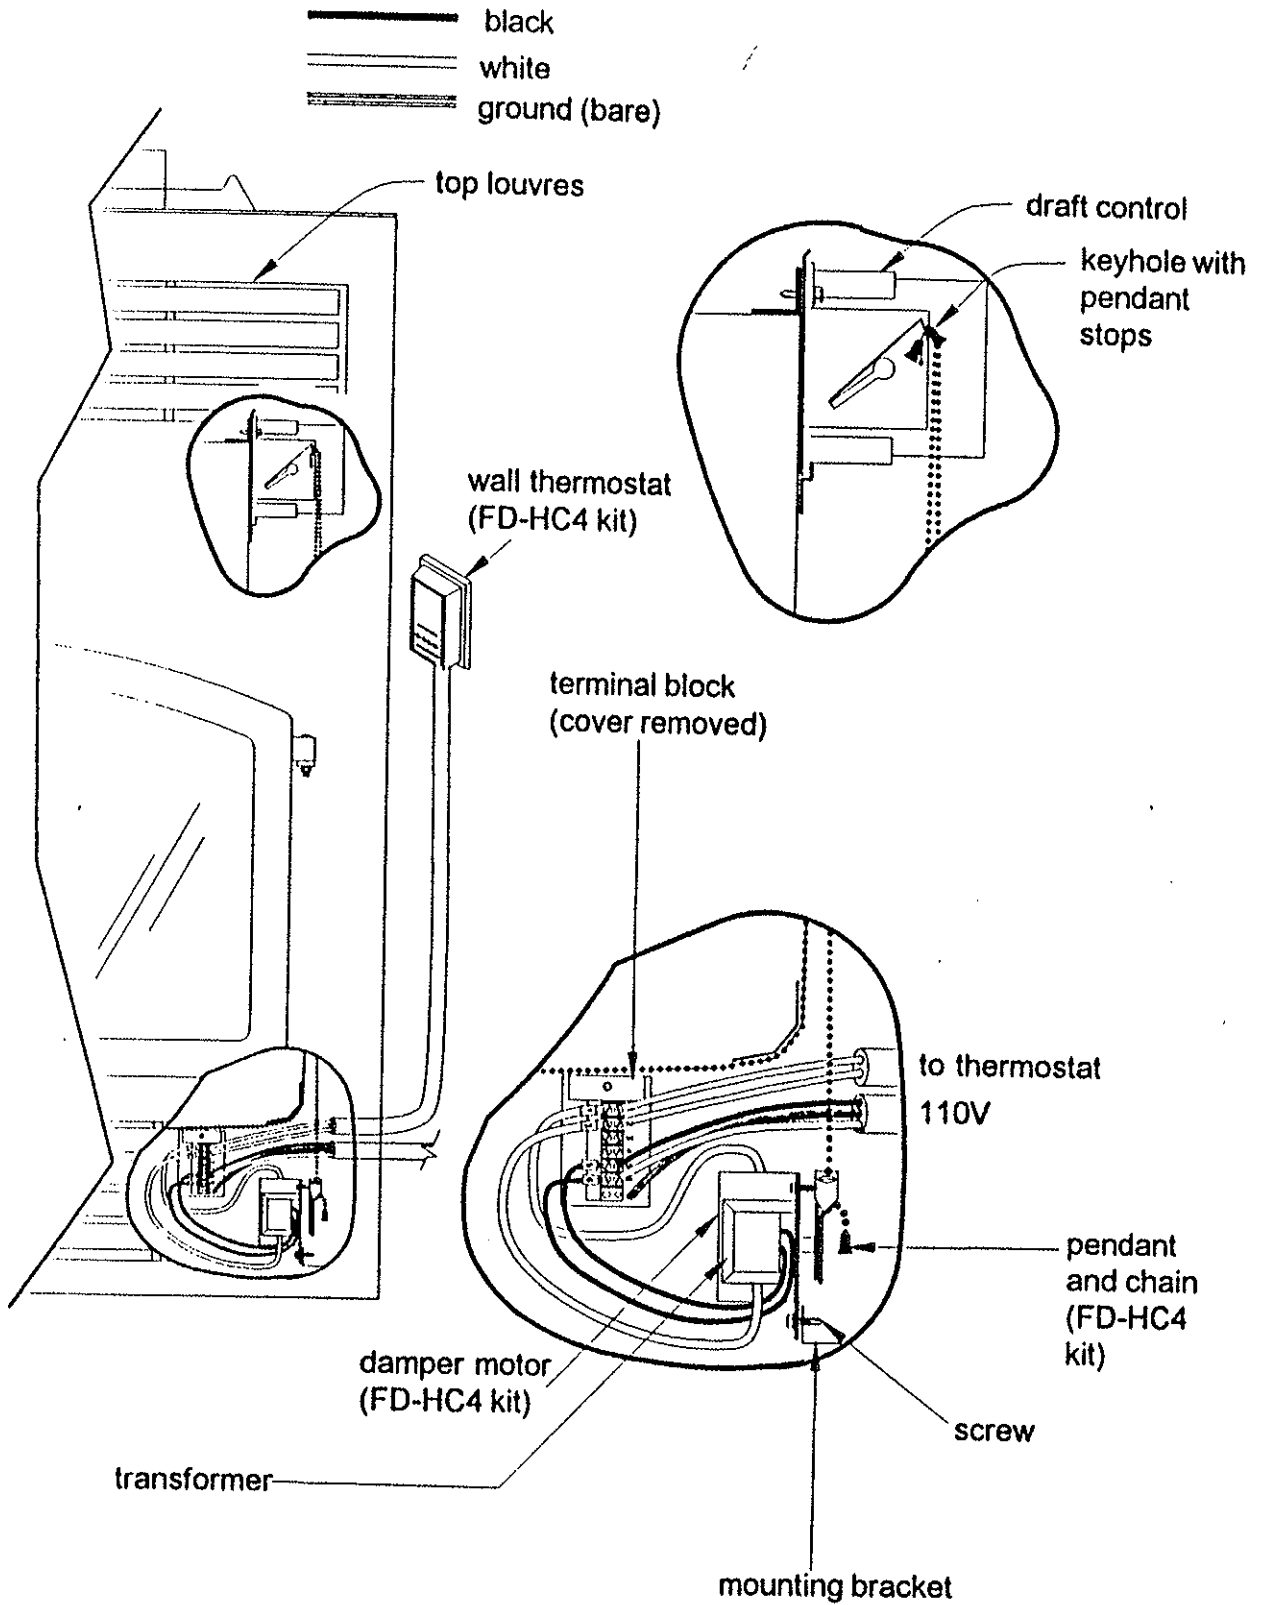

Figure 21: Thermostat control installation
2. The damper motor and transformer are mounted on a bracket in the bottom right hand corner of the fireplace (see Figure 21).
5. Wire the thermostat as shown in Figure 21, making sure the wall control is sufficiently away from the direct radiation of the fireplace. Make certain that it is at least 10 ft. away from the fireplace, but in the same room.